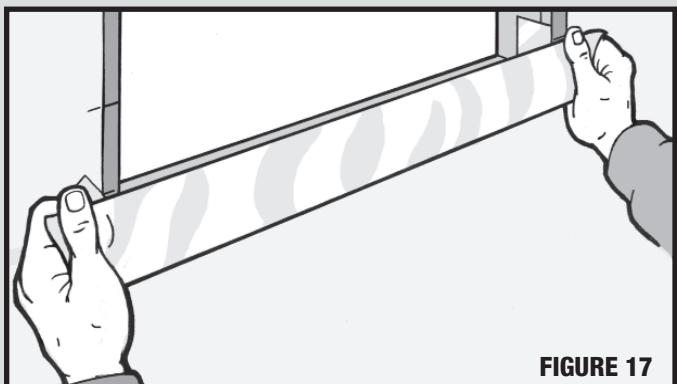

FIGURE 17
Step 8. Install sill base flashing. Peel the release paper on the sill base flashing and align the sill base flashing with the previous marks made on face of wall that correspond with window depth. (Figure 17)